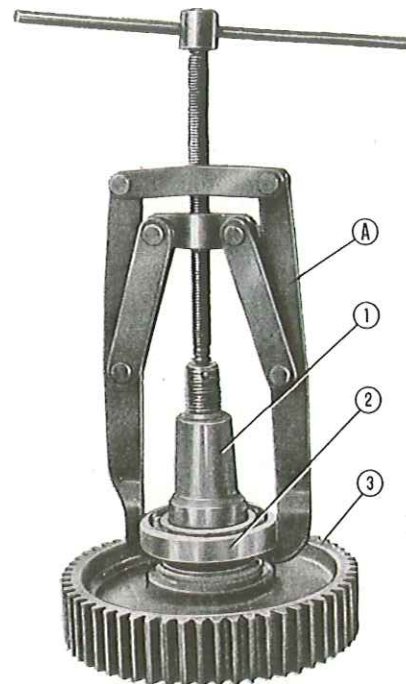

Fig. 87. - Extraction of the drive wheel shaft bearing with a universal type puller.
- *Drive wheel shaft*: loosen the fastenings, then remove the final drive box cover; pull out the drive wheel shaft assembly (the shaft bearings can be removed later using a suitable universal puller, as shown in Fig. 87).